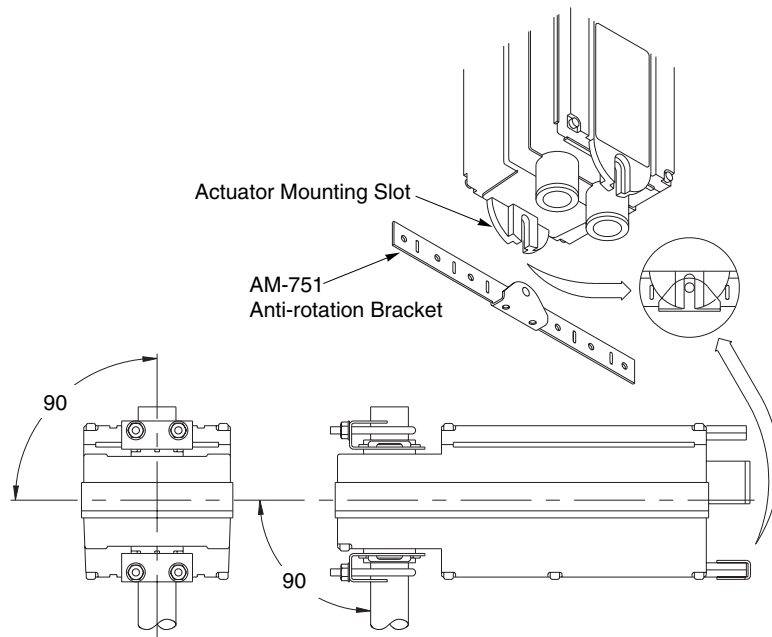

Figure-9 Mounting Anti-rotation Bracket to Actuator.
4. Align the actuator at 90° (perpendicular) to the damper shaft. See Figure-9.
5. Slide the anti-rotation bracket pin into the mounting slot on the actuator and drill mounting holes. See Figure-9. For narrow spaces the AM-752 anti-rotation bracket is recommended (order separately).
6. Assemble the damper actuator onto the universal shaft extension, allowing the extension to slide through the actuator's universal mounting clamps. Make sure the actuator is 90° (perpendicular) to the damper shaft. Then, hand tighten the nuts on both of the actuator's universal mounting clamps. See Figure-9
7. Slide the anti-rotation bracket pin into the mounting slot on the actuator. See Figure-9. For narrow spaces, the AM-752 anti-rotation bracket is recommended (order separately).